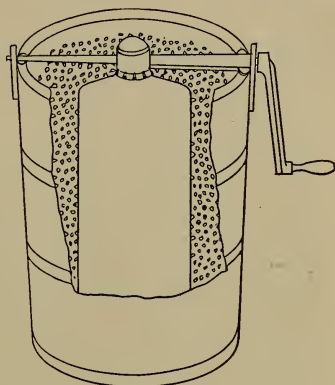

FIGURE 6. — LINE DRAWING OF AN ICE CREAM FREEZER.
**14. Freezing Ice Cream.** — The freezer in which ice cream and ices are frozen is made up of two compartments; one, a can, which fits very loosely into the other, a wooden pail. (Figure 6.)